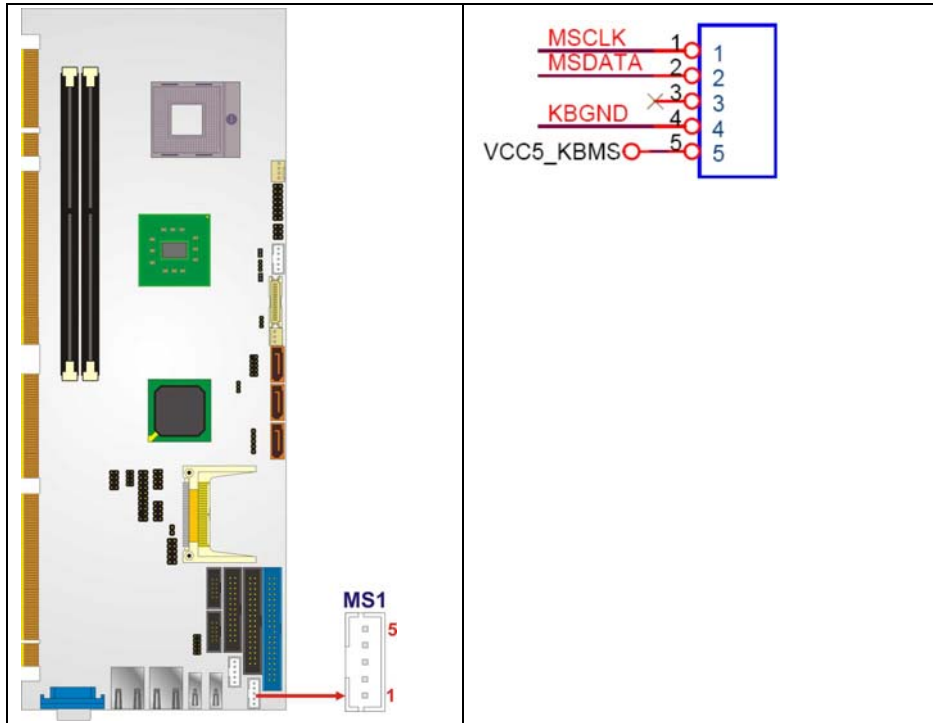

Figure 4-14: Mouse Connector Location
- CN Location:** See **Figure 4-14**